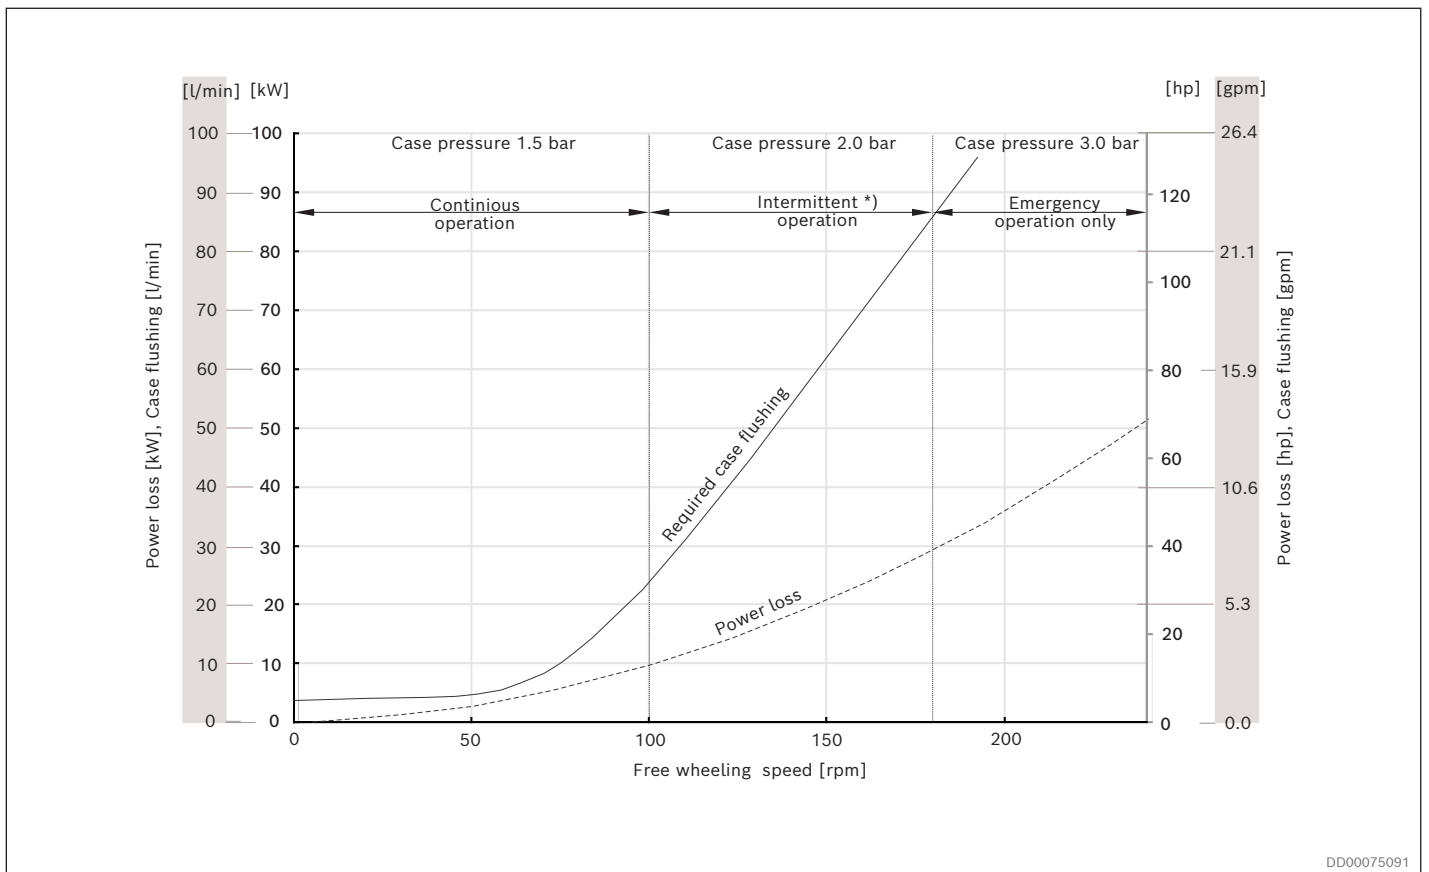

Fig. 63: Power loss freewheeling, oil viscosity 40 cSt (187 SSU)
3. An adequate pressure introduced into the drain ports of the motor. See Fig. 63
- The motor must be pressurized all the time when the motor is in freewheeling mode, see *Fig. 63*.
- The motor must be flushed all the time when the motor is in freewheeling mode, see *Fig. 63*.
An accumulator can be added into the circuit to shorten the time to retract all the pistons completely, see *Fig. 63*.
Even if the freewheeling operation takes place with lowest possible friction in the main bearings and with no flow losses in the main ports of the motor, a powerloss must take place in the motor case due to viscous friction between moving and fixed parts. This powerloss is expressed in diagram, Fig. 63.
Case flushing is required to prevent overheating, see diagram Fig. 63